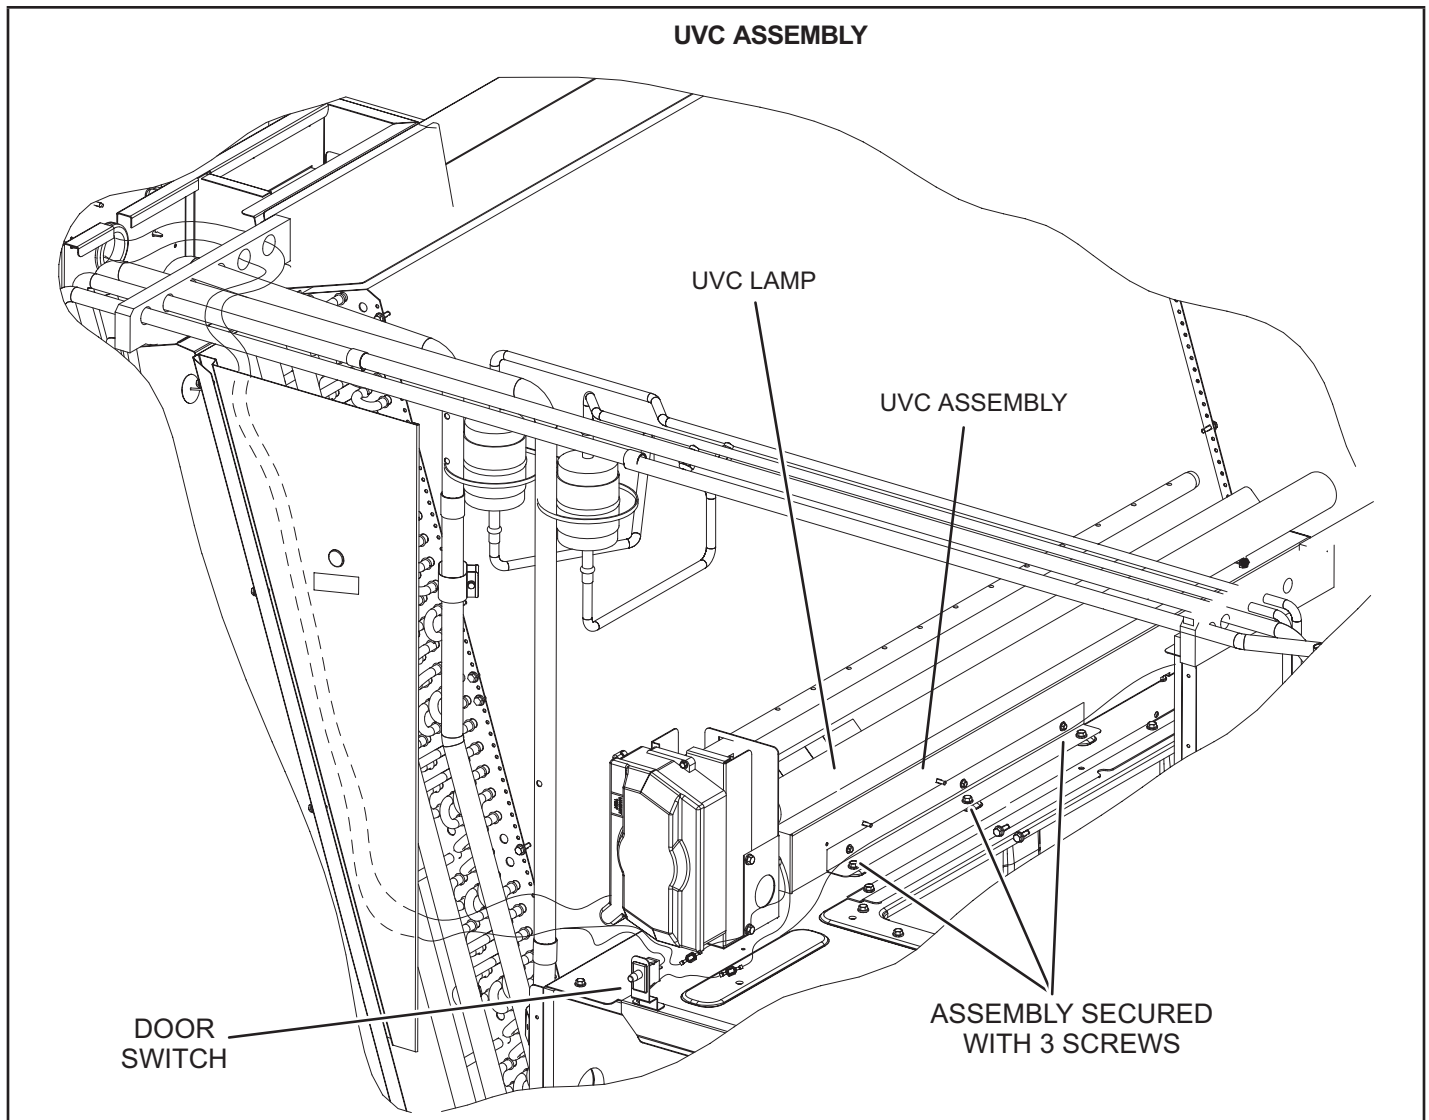

FIGURE 39
When the UVC light is factory installed, the lamp is shipped in a foam sleeve. The lamp is attached to the UVC light assembly on the blower deck. See FIGURE 39. Remove the lamp and install into the UVC light assembly as shown in steps 2 through 11.
- 5 - Remove and retain the (3) screws securing the UVC assembly. Carefully slide the complete UVC assembly out through the blower access door. See FIGURE 39.
- 8 - Carefully place the UVC assembly on the blower deck. Line up the mounting holes on the UVC assembly with the mounting holes on the blower deck. See FIGURE 39. Use the retained screws provided to attach the UVC assembly in place.